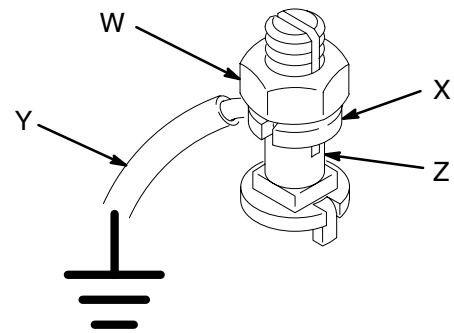

Fig. 1
1. *Pump:* use a ground wire and clamp as shown in Fig. 1. Loosen the grounding lug locknut (W) and washer (X). Insert one end of a 12 ga (1.5 mm2) minimum ground wire (Y) into the slot in lug (Z) and tighten the locknut securely. Connect the other end of the wire to a true earth ground. Order Part No. 237569 Grounding Clamp and Wire.